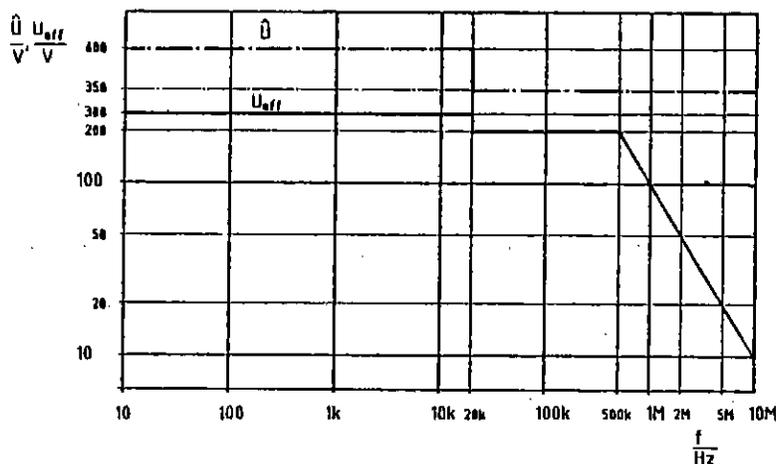

Fig. 2-3 Permissible input voltages
- The total peak input voltage (peak AC voltage + DC component) must not exceed 600 V at frequencies up to 20 kHz and 350 V at higher frequencies (Fig. 2-3).
- The rms value of the AC voltage must not exceed 300 V at frequencies up to 20 kHz and 200 V at higher frequencies up to 500 kHz. At frequencies above 500 kHz, it must be reduced so that the voltage-frequency product does not exceed  $10^8$  V · Hz (Fig. 2-3).